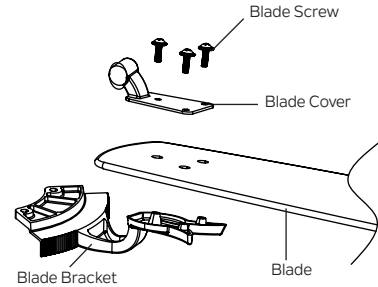

Fig. 18
Step 1. Position the blade over the blade bracket with the threaded post showing. Make sure the bottom edge of the blade is fully seated against the blade bracket. Place blade cover on top of the blade, positioning the holes over the threaded posts. Tighten with three screws from the hardware pack to secure the blade to the blade bracket. (Fig.18)